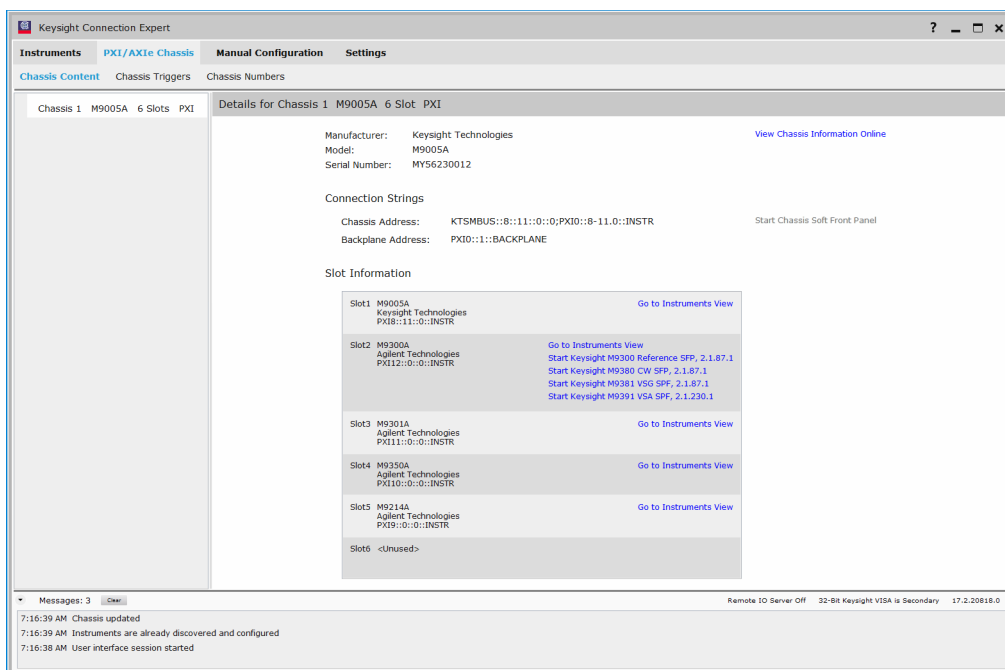

Figure 14 PXI/AXIe Chassis View in Keysight Connection Expert
The M9005A chassis driver software provided on the **M9005 PXIe Chassis Product Software and Information CD** will automatically detect your M9005A chassis. To manually configure your chassis follow the steps outlined below. Refer to Figure 14 while completing the following steps:
- 8 Click on the **PXI/AXIe** tab as shown in Figure 14. In the **Chassis Content** view, you will see a list of all the chassis that have been discovered or manually added. In the **Chassis/Module Detail** view, you will see manufacturer, model number, serial number, addresses, etc. Access to soft front panels is available if applicable. The **Chassis Triggers** selection allows you to reserve trigger lines and create trigger routes. The **Chassis Numbers** selection allows you to change the numbering of the chassis to better correspond to your system's physical layout or to match the numbering used by an existing test program.